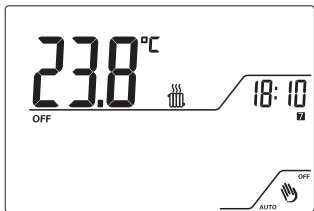

Fig.21
5.4.1 Press for 4  seconds to switch-off programmable thermostat. Now the FUNCTION OFF is activated. It can be activated with and without Frost Protection. It is important to avoid damage caused by low temperatures fig.21 shows that the system is OFF with Frost Protection function active.